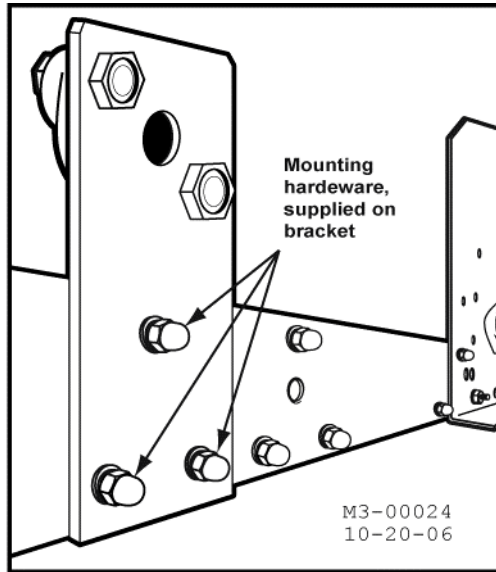

Figure 2-7: Attach Brackets
4. Attach the Guide Roller Brackets to the side guides. See Figure 2-7.